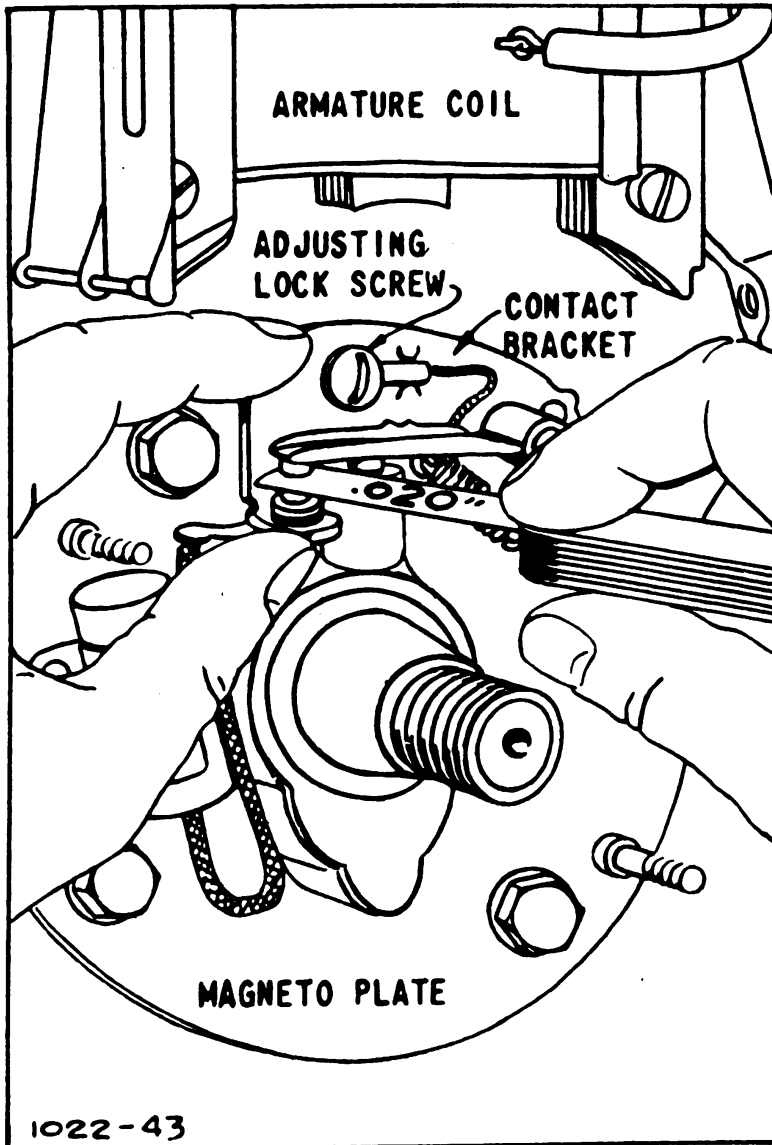

Figure 14.—Adjusting contact points
23. TO ADJUST AND CLEAN MAGNETO CONTACT POINTS.—Remove blower housing, flywheel and magneto point dust cover. Turn crankshaft by hand to see if contact points open and close properly. Points must be clean and lined up squarely to make good electrical contact. Do not use a steel file, but use fine sandpaper or fine grit hone to clean points. Adjust gap to .020 inch by loosening the adjusting lock screw and moving contact point bracket up or down (fig. 14). When proper gap is obtained, tighten lock screws securely. Recheck the gap after tightening lock screw to make sure adjustment has not shifted. If either or both points become badly pitted or burned and need replacement, always replace complete assembly, stock number 3H4577A/P30.